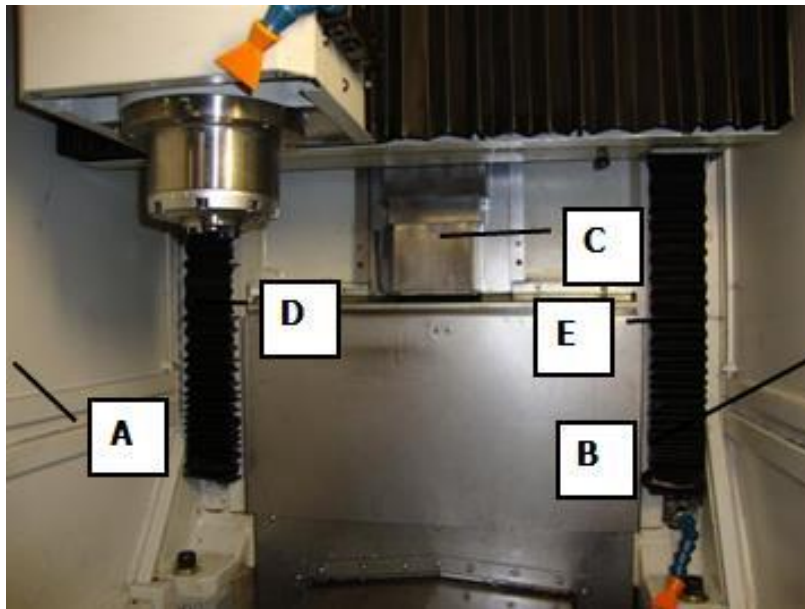

Figure 6.7a Ballscrew Replacement, Z Axis
1. Remove the sheet metal. See figure 6.7a.